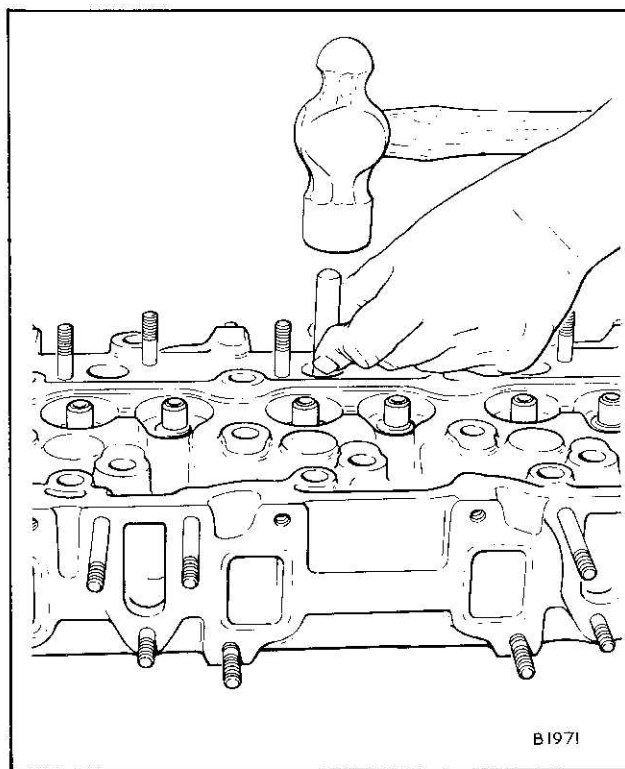

Fig. 5
1. To remove the combustion chamber inserts, tap out through the atomiser bores using a suitable mandrel, Fig. 5.